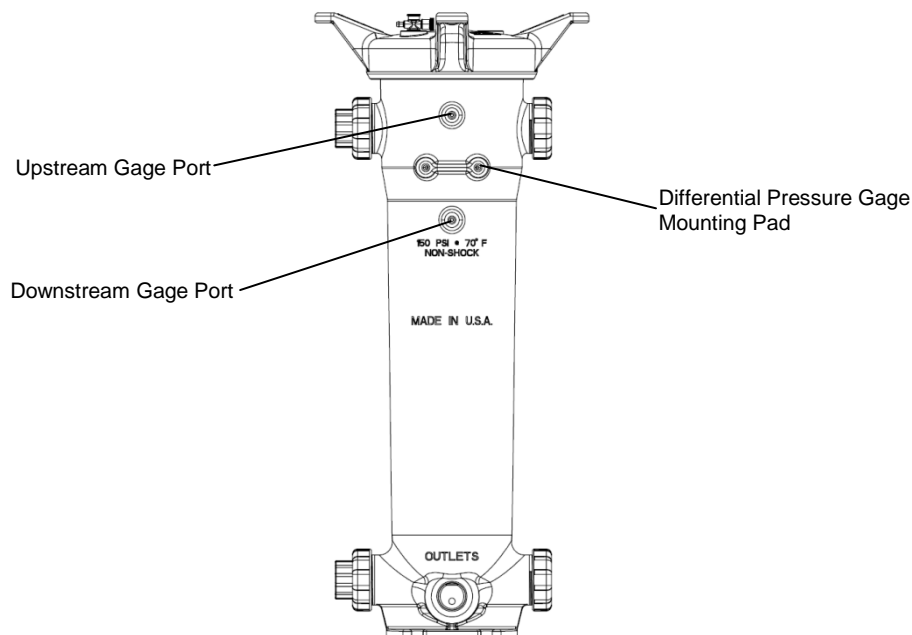

Fig. 2: Differential pressure gauge ports
1.4.1.2 Remove threaded pipe plugs from upper and lower differential pressure ports (if vessel provided with drilled and tapped differential pressure ports). (See fig. 2.)